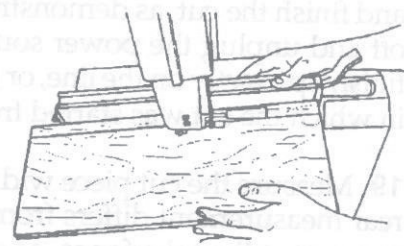
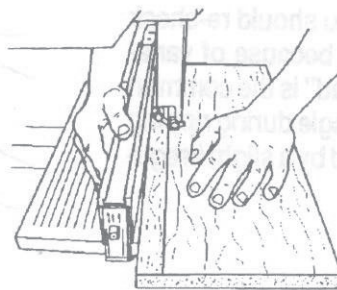

Fig. 14
Fig. 15
11. Mount the fence on the bandsaw table, and slide the fence so it touches the board (but does not move it), as seen in Fig. 14.
12. Tighten the handle (13). You may see a gap at some area between the fence and the board.
13. Hold down the board (if not clamped to the table) and move the fence so its entire length contacts the board (eliminating any gap), as shown in Fig. 15.